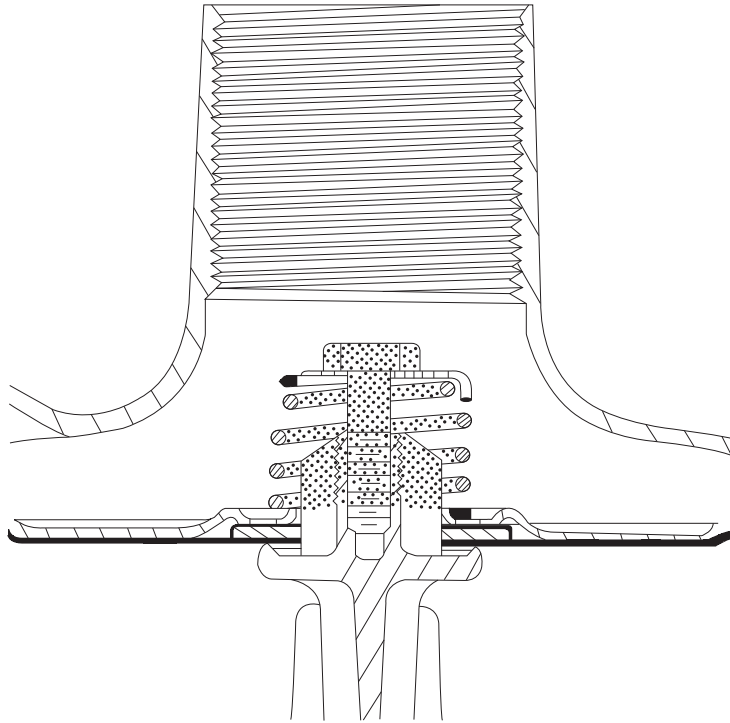

Figure 16. Signs of Corrosion in the Pusher Post and Internal Relief Valve Assembly (Shaded area)
3. Look for visible corrosion or watermarks on the shaded area in Figure 16.